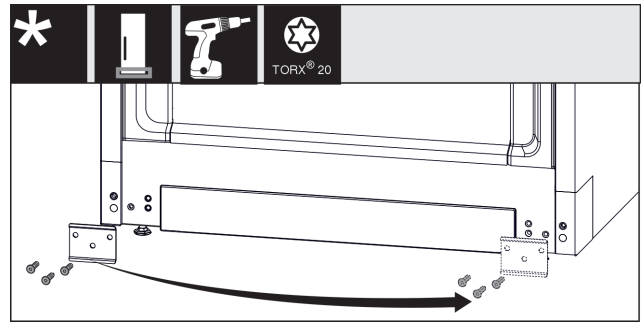

Fig. 13
- ▶ Unscrew the metal plate, move it to the other side and screw it on again. *Fig. 13 (1)*